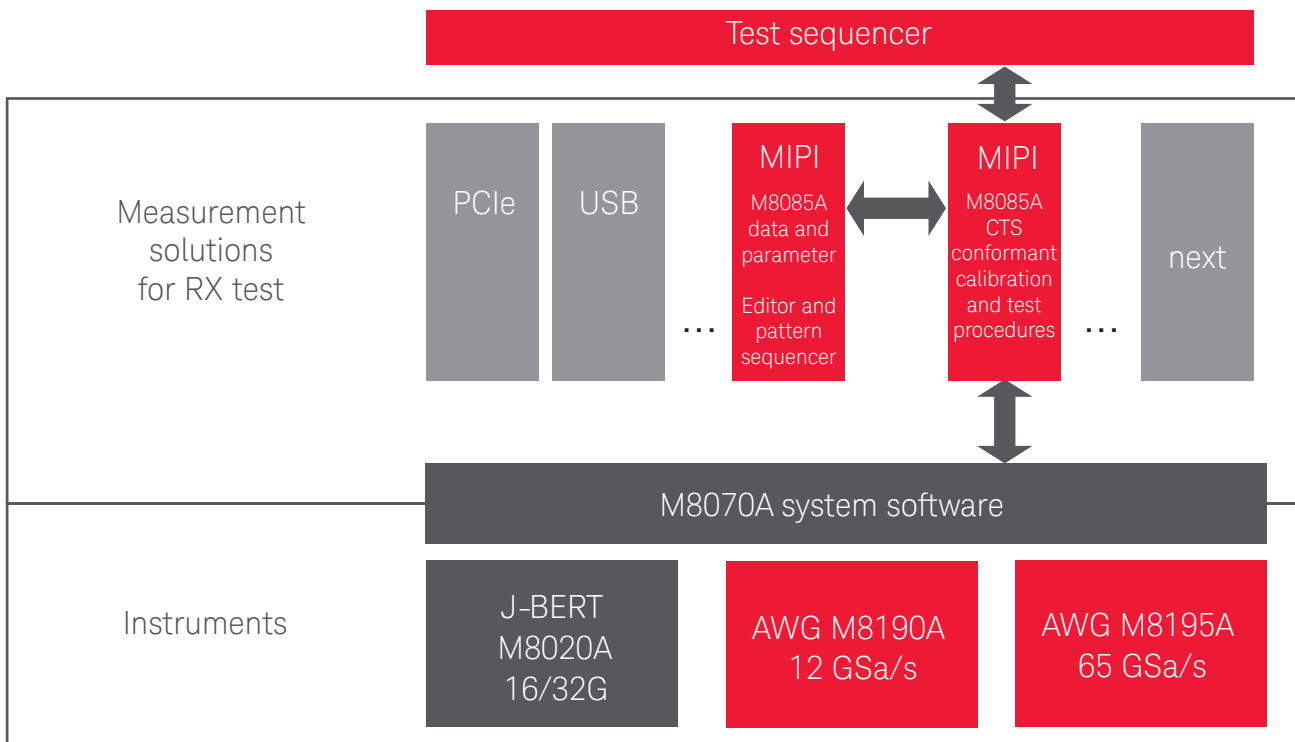

Figure 2. Architecture of application specific solutions within the M8000 System.
The M8000 Series of BER test solutions for digital RX characterization with its modular AXI-HW architecture and its Plug In SW-concept allows composing the required BERT consisting of Pattern Generator (PG) and Error Detector (ED) building blocks using a Keysight M819x AWG as PG and the M8070A System Software. The M8070A SW furthermore hosts the application specific test automation SW Plug-In M8085A as depicted below in Figure 2 below, which in turn hosts the IBERReader interface providing the connection to the error detector that needs to be provided by the DUT.